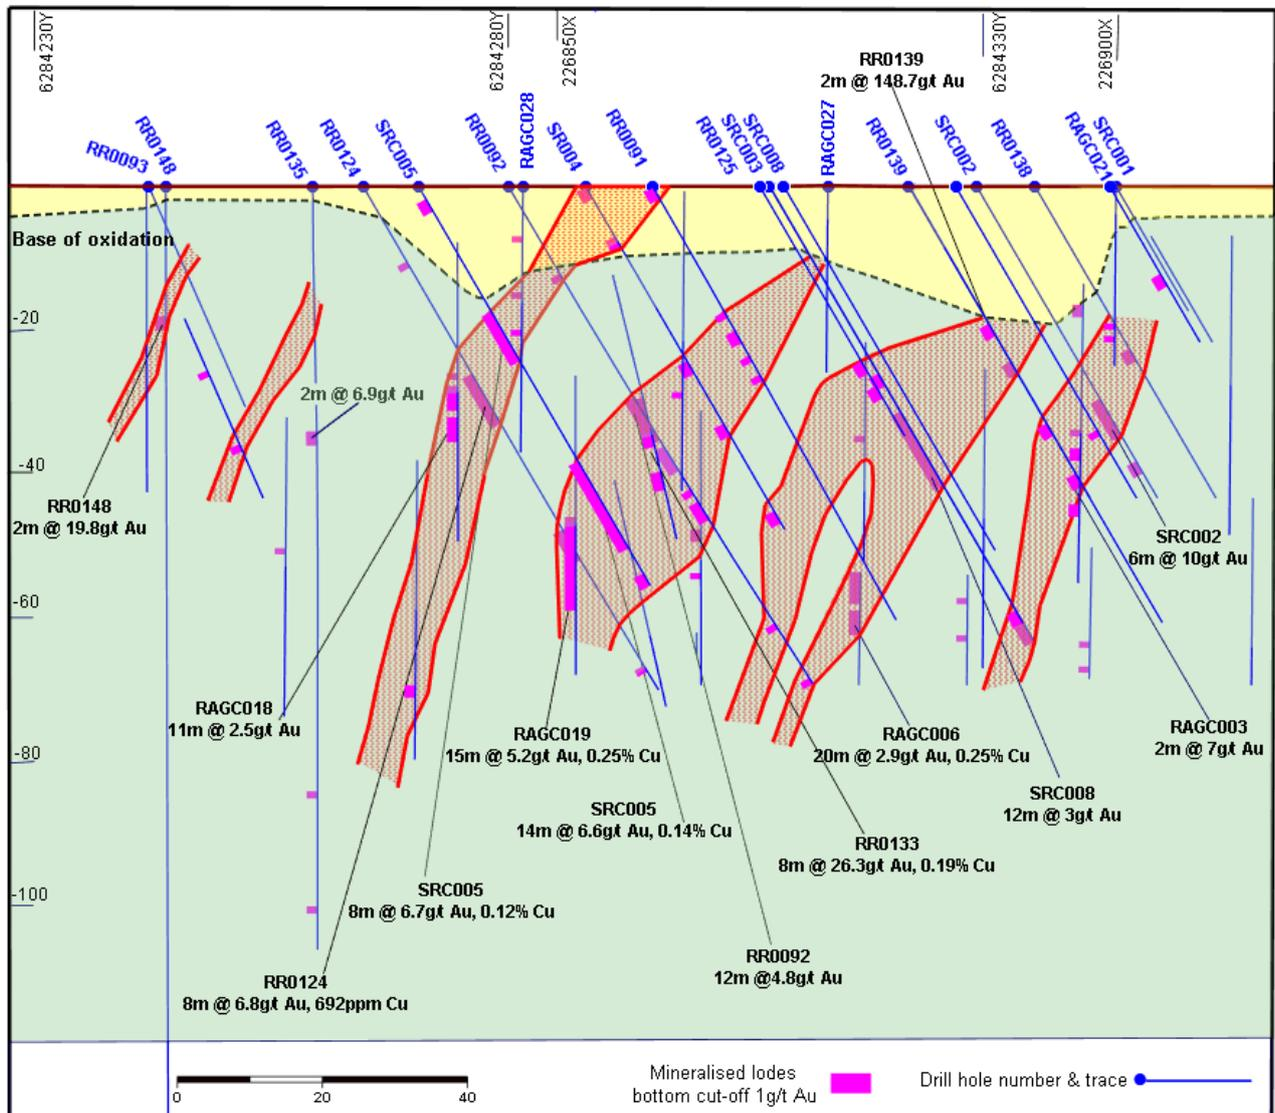

Figure 3. A long-section of the Sirdar Mine showing drill hole intersections
In 2001 Greenstone Resources Limited (3), one of the former tenement holders, estimated a non-JORC-compliant Inferred Resource of 95,000 tonnes @ 5.0 grams per tonne gold at Sirdar using a 1 gram per tonne gold bottom-cutoff and a top-cut of 20 gram per tonne gold. Traka subsequently drilled 20 reverse circulation holes and established that a steep westerly trending intrusive hosted the bulk of mineralisation. Traka did not attempt to re-estimate the resource but did confirm that high-grade gold mineralisation remained open in all directions (Figure 3). Furthermore, geochemical surveys showed that Sirdar was positioned on the south-end of an 800 metre long north orientated soil geochemical anomaly which remains untested.